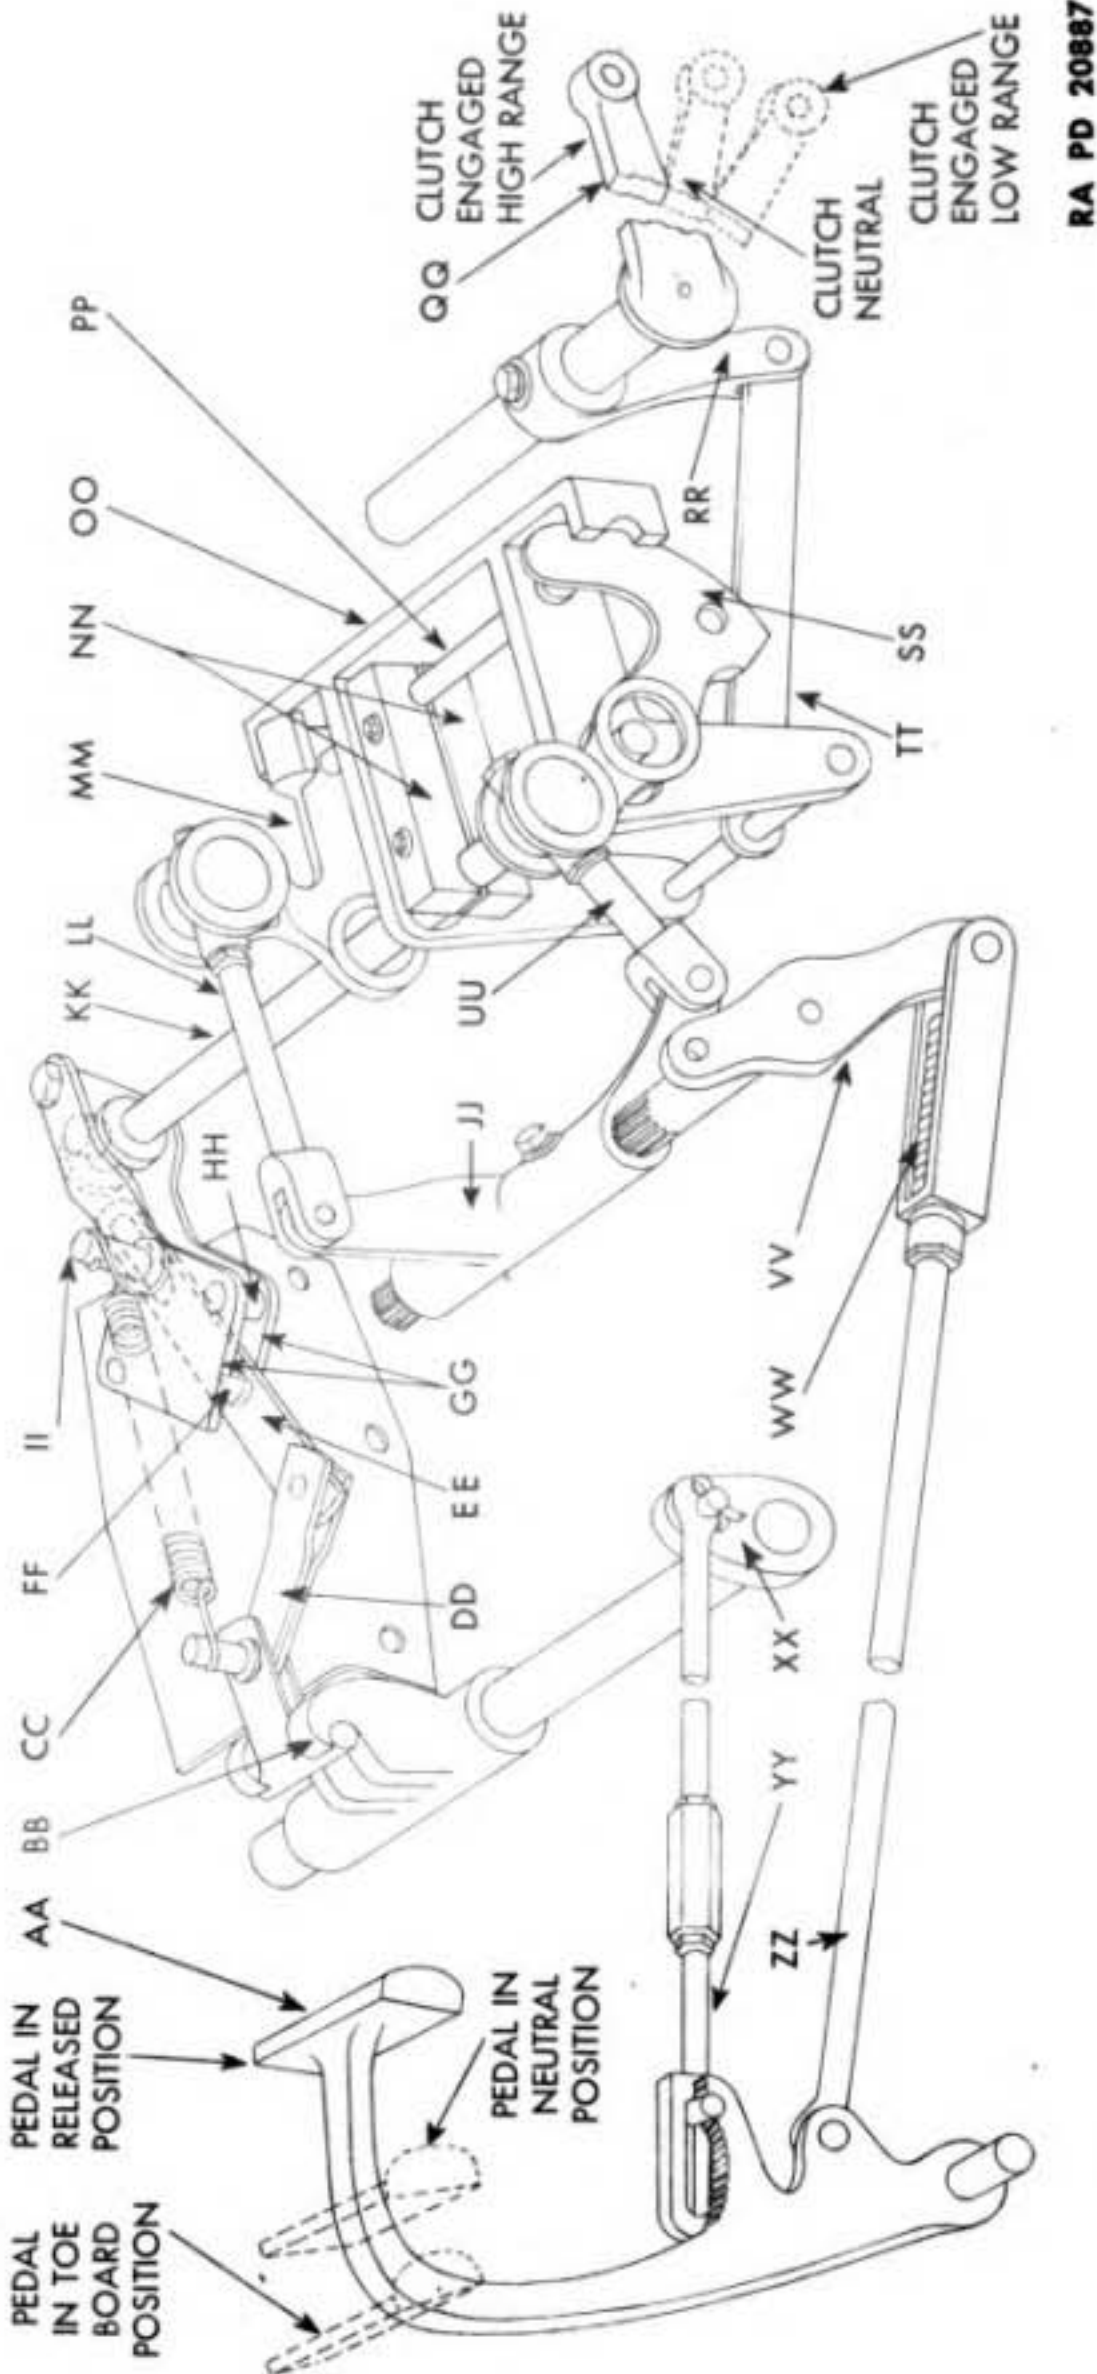

Figure 158 — Schematic Drawing of Clutch Selector — Clutch Engaged
**Legend for Figure 158 — Schematic Drawing of Clutch Selector — Clutch Engaged
(3) **CLUTCH DISENGAGED** (fig. 158). Depressing the service clutch pedal (AA) from neutral to the toeboard does not affect the
(4) **CLUTCH DISENGAGED** (fig. 158). When the service clutch pedal is released back to neutral, the toggle lever (XX) also moves back. This permits the two toggle operating arms (DD and EE) to move backward, due to the pulling force of the toggle overcenter springs (CC). As the toggle operating arms (DD and EE) move backward, a guide pin (FF) in the rear arm contacts the toggle plates (GG), and slides along the diagonal sides of the plates until the arm strikes a stop pin (HH) between the two plates. When this happens, the toggle plates pivot on the pin (II), and move the shifter rod (KK) sideways. The shifter rod (KK) is connected to the rear end of the toggle plates, and is also connected to the shifting lever pin (PP) by the shifting levers (NN). When the shifter rod (KK) moves, the shifting levers (NN) and the shifting lever pin (PP) move with it, thereby disengaging the high-range lever (MM) and engaging the low-range lever (SS).